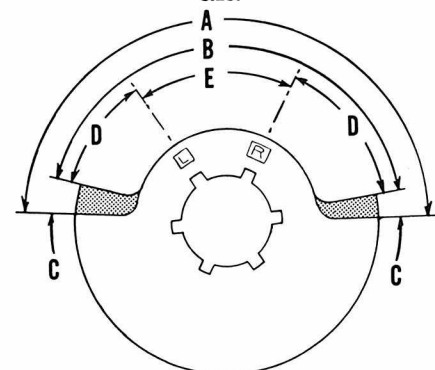

Fig. BST 3-4—Drawing of rotary valve showing suggested modifications.
**ROTARY VALVES.** The rotary valves should be cut away 10 degrees at both opening and closing ends as shown at (C—Fig. BST 3-4). Carefully modify the valves, making certain that corners are rounded to prevent breakage at high rpm.
**ROTARY VALVES.** The rotary valves should be cut away 10 degrees at both opening and closing ends as shown at (C—Fig. BST 3-4). Carefully modify the valves, making certain that corners are rounded to prevent breakage.